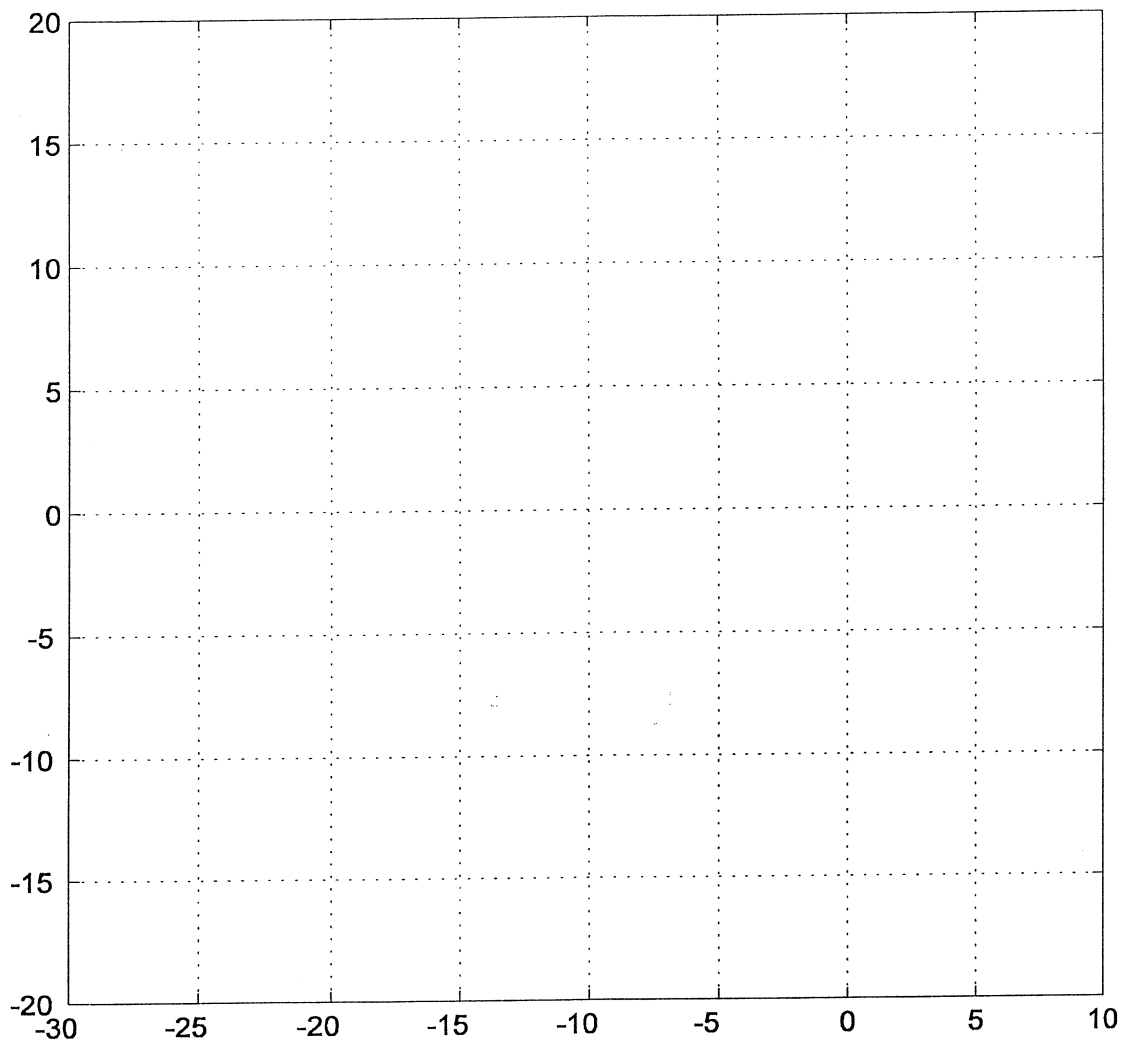

Figure Q5.2 – Root Locus of the System in Question 5
- 1) **(10 marks)** Sketch the Root Locus for the system, in the space provided in Figure Q5.2. Calculate all relevant coordinates: asymptotic angles, break-in/away points, the location of the centroid and the coordinates of the crossover with the Imaginary axis, i.e. ω_{osc} and the corresponding value of the critical gain, K_{crit} , at which the system becomes marginally stable.